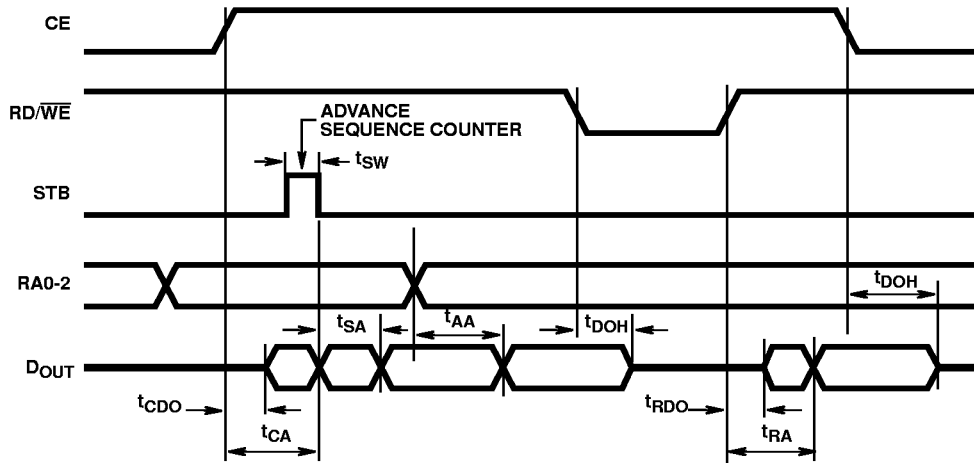

FIGURE 9. READ TIMING DIAGRAM
**Dynamic Electrical Specifications** At  $T_A = -40$  to  $+85^\circ\text{C}$ ,  $V_{DD} \pm 5\%$ ,  $t_R, t_F = 20\text{ns}$ ,  $V_{IH} = 0.7V_{DD}$ ,  $V_{IL} = 0.3V_{DD}$ ,  $C_L = 100\text{pF}$  (See Figure 9)
**Dynamic Electrical Specifications** At  $T_A = -40$  to  $+85^\circ\text{C}$ ,  $V_{DD} \pm 5\%$ ,  $t_R, t_F = 20\text{ns}$ ,  $V_{IH} = 0.7V_{DD}$ ,  $V_{IL} = 0.3V_{DD}$ ,  $C_L = 100\text{pF}$  (See Figure 9) (Continued)